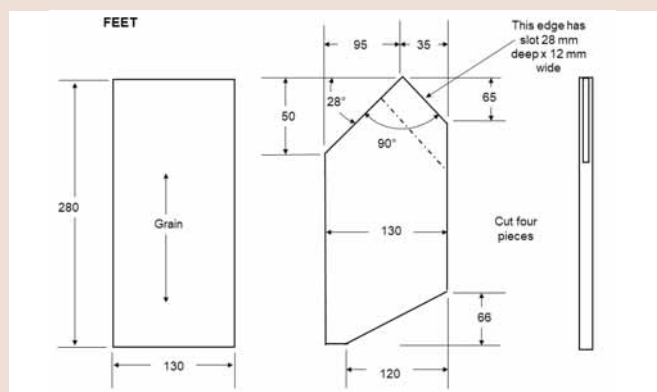

Fig. 2
Step 2: Mark-out the pieces as shown in Fig. 2. Remember to measure twice before cutting. Accuracy is important here so, before starting to cut to shape, check that the angles noted are close to those given. The design of the table is to 'squeeze' as much as possible out of standard Pine PAR.